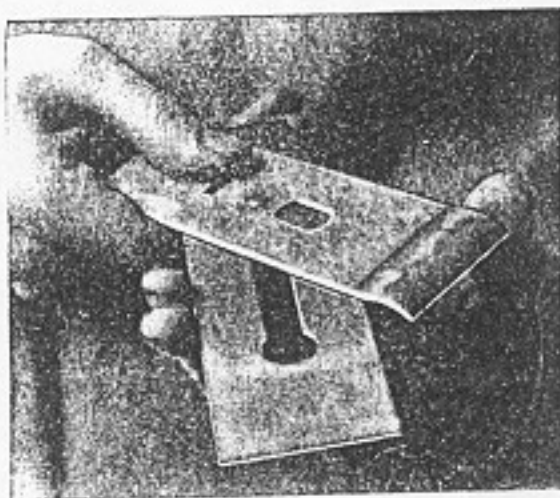

Fig. 86. After sliding the cap to the end of the slot, it is turned until its edges are even with those of the plane iron.
10. It is now turned so that the sides of the two irons are even, and it is slid toward the cutting edge of the plane iron (Fig. 86). The edge of the cap should be from $1/32$ to $1/16$ in. away from the edge of the cutter.